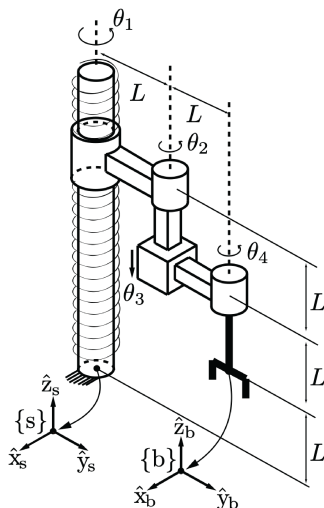

Figure 3: A four degree of freedom manipulator with a screw joint.
- (b) Figure 3 shows the same 4 degrees of freedom manipulator with joint 1 replaced by a screw joint of finite pitch h . Assume that $0 < \theta_1 < \infty$ and $0 < \theta_3 < \infty$ with the only restriction being that the origin of the end effector frame cannot go below the ground. In other words, we assume that the screw in joint 1 is of infinite height, and joint 3 is allowed to extend arbitrarily far so long as the end effector does not collide with the floor.